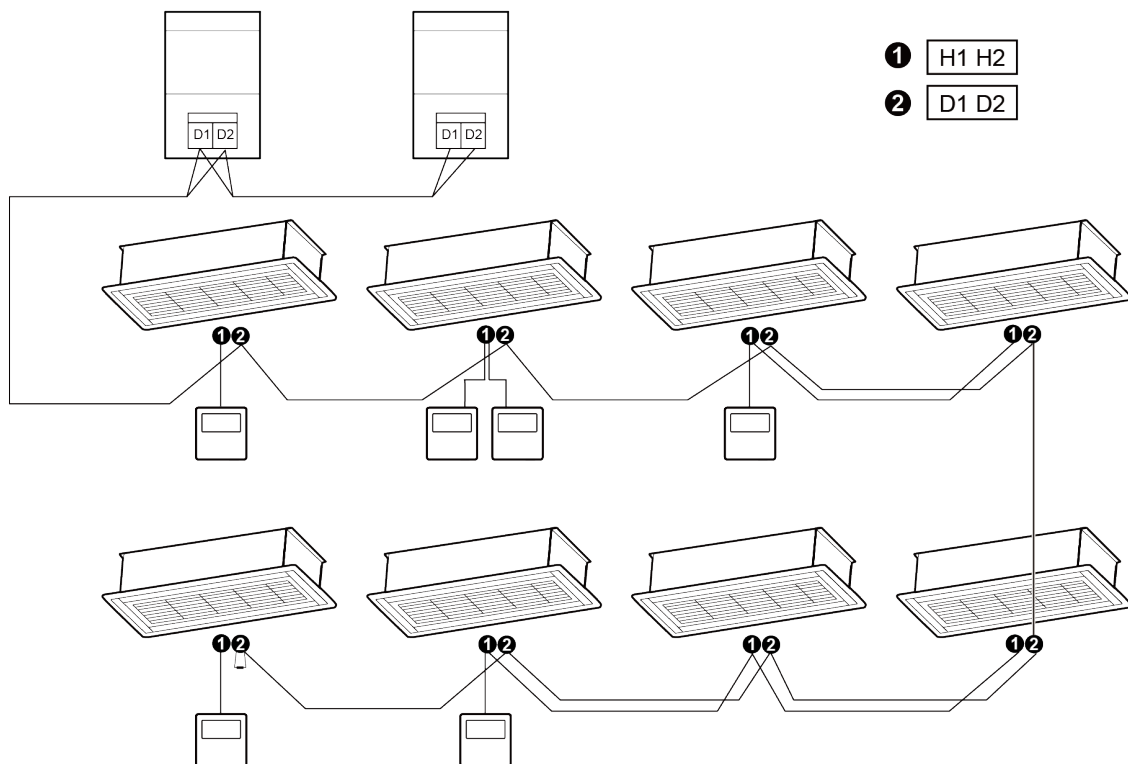

Fig.5.5.1
- (1) Communication wire of indoor unit and outdoor unit (or indoor unit) is connected to D1, D2.
- (2) Wired controller is connected to H1, H2.
- (3) One indoor unit can connect two wired controllers that must be set as master one and slave one.
- (4) One wired controller can control 16 indoor units in maximum at the same time. (As shown in Fig.5.5.1).